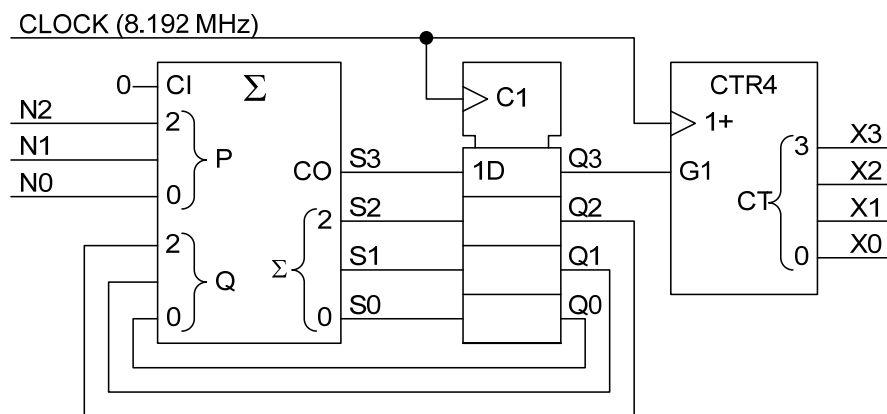

Figure 2.1
2. The circuit of *Figure 2.1* comprises a 3-bit adder, a 4-bit register and a 4-bit counter. The counter increments on the rising edge of CLOCK provided that Q3 is high. The CLOCK frequency is 8.192 MHz.